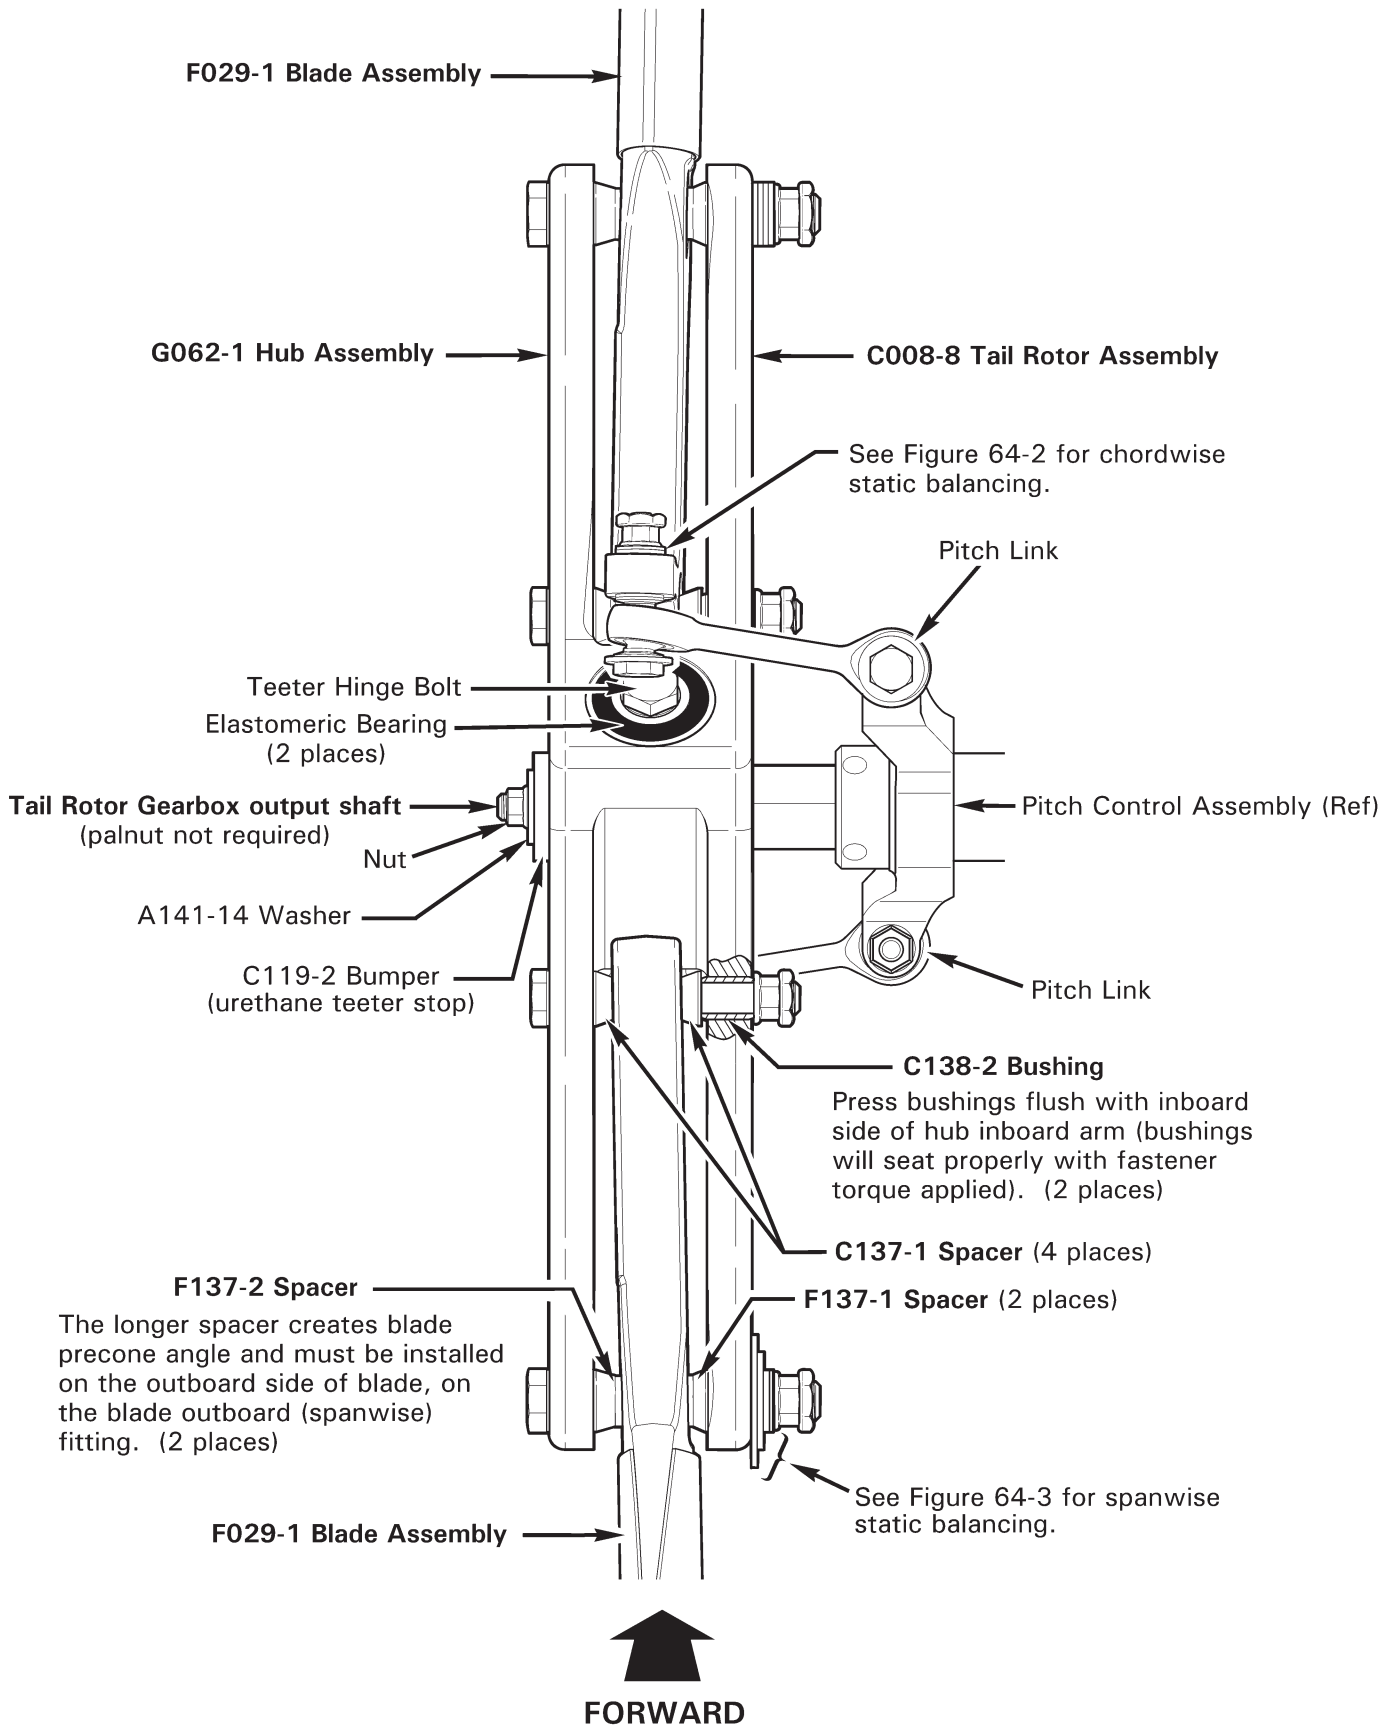

FIGURE 64-1 TAIL ROTOR INSTALLATION
Refer to R66 Illustrated Parts Catalog (IPC) Figure 64-1.
1. Refer to Figure 64-1. Tag each pitch link with corresponding blade serial number for reinstallation. Remove hardware securing pitch links to tail rotor blades, noting hardware removed.
1. Refer to Figure 64-1. Position tail rotor assembly on tail rotor gearbox output shaft. Verify tail rotor is installed for clockwise rotation when viewed from left side of aircraft. Verify blades cone toward tail rotor gearbox.
2. Refer to Figure 64-1. Remove hardware securing F029-1 blade assemblies to G062-1 hub assembly. Remove blades, spacers, and hardware; do not remove C138-2 bushings unless required.
2. Refer to Figure 64-1. If removed, apply light coat of approved primer per Section 20-70 to outer surface of C138-2 bushings; while primer is wet, press bushings flush with inboard side of hub inboard arm (bushings will seat properly with fastener torque applied).